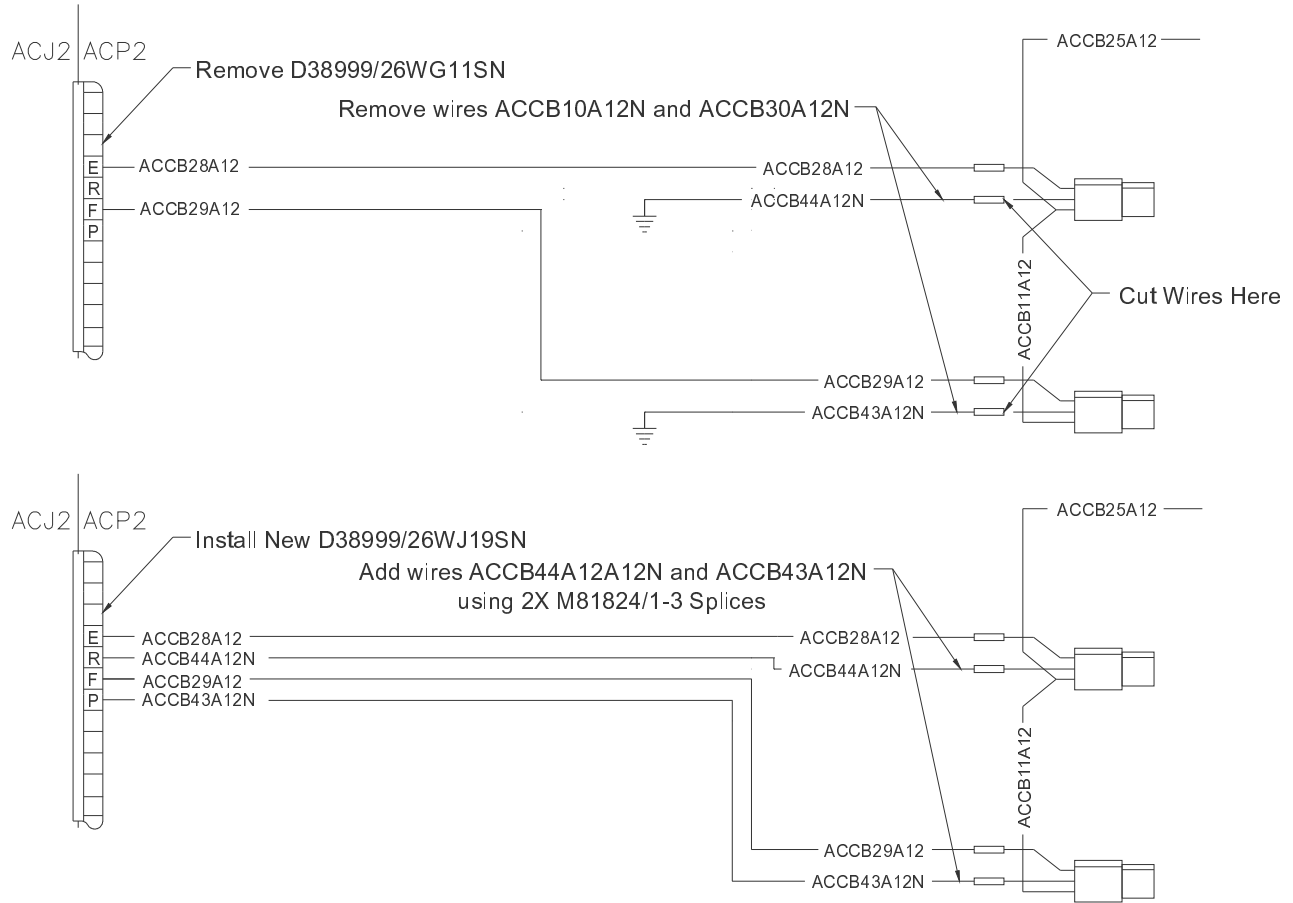

Figure 1: Wire Schematic Change for Section I
1. Remove left and right forward evaporator local ground leads ACCB10A12N and ACCB30A12N from GND 1. Find wires between M81824/1-3 Splices and Molex connectors. Cut wires close to the M81824/1-3 splices. See Figure 1.
3. Figure 1. Install wire per Figure 3,4,5.
4. De-pin ACP2 connector (D38999/26WG11SN) and replace with new D38999/26WJ19SN. Install new M85049/43-24W backshell on D38999/26WJ19SN connector. See Figure 1,4.